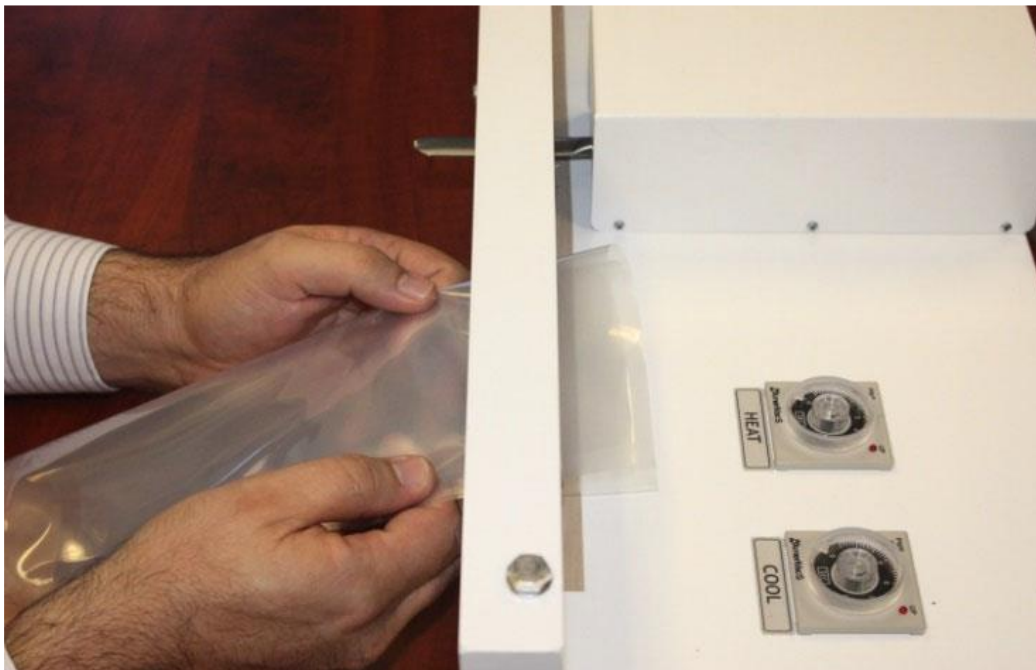

Figure 3
2. Set Heat Timer to four (4) seconds and Cool Timer to six (6).
3. Take one bag and fold it in half. Place your folded bag between the jaws back enough to extend past the Pressure Bar. Placing it above, below or to one side of the nozzle. See figure 3.